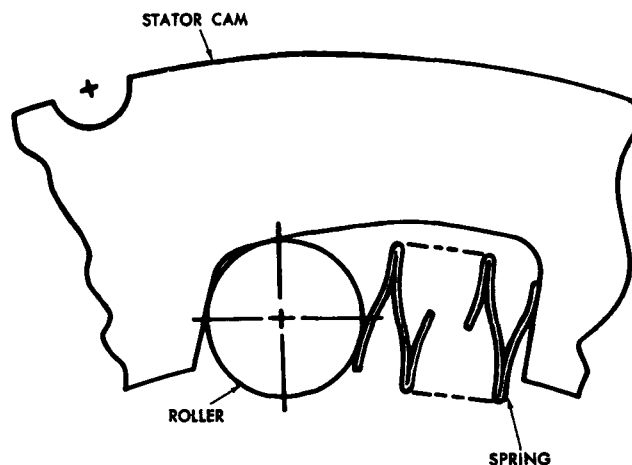

Fig. VI-10. Spring and roller positions in stator cam
(2) Coat the cam pockets in the stator cam with oil-soluble grease. Install ten rollers 6 (B, foldout 7) into the shallow ends of the cam pockets. Install the ten springs 7 into the deep ends of the pockets. Fig. VI-10 shows the proper ends of the rollers and springs in the stator cam.
(3) Install freewheel roller race 8 (B, foldout 7) into the stator assembly. Rotate the race clockwise while installing it. This will roll the rollers toward the deep ends of the cam pockets, allowing the race to enter the bore of the stator assembly.
(4) When the race is seated against the thrust bearing, twist it firmly to the left (counterclockwise) to lock it in place. Lay the assembled stator aside, roller race upward, until ready for installation into the transmission.
a. Disassembly (item 15, B, foldout 7)